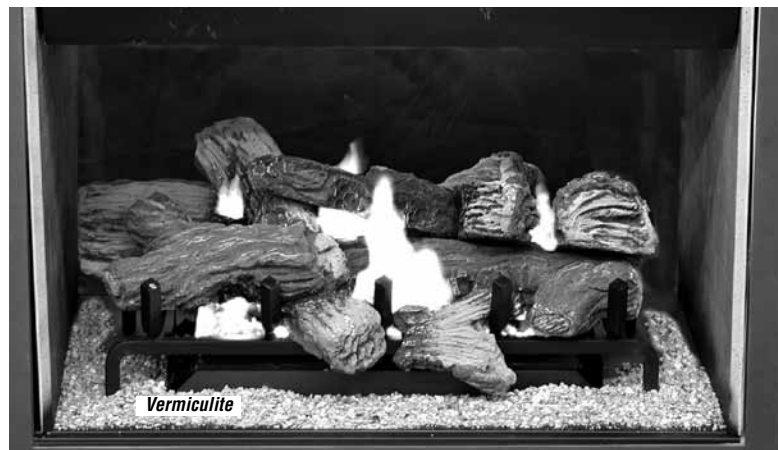

Figure 34 - Burner Flame Appearance
4. **Install Vermiculite** - Place some vermiculite on the firebox floor around the grate (the entire bag of vermiculite will NOT be used). See **Figure 34 on Page 19. DO NOT PLACE ANY VERMICULITE ON THE BURNER.**
3. Allow the burner to operate for at least 15 minutes while observing the flame continuously to ensure that the proper flame appearance has been achieved (see **Figure 34**).